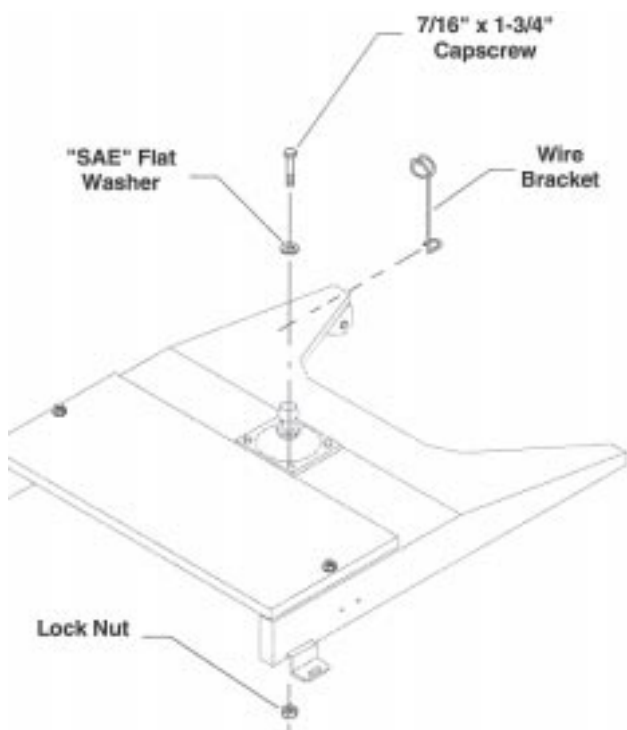

Figure 9
8. Attach the Bracket-Wire (92-4544) with 7/16" x 1-3/4" capscrew, "SAE" flat washer and lock nut from loose parts bag. (Fig. 9)